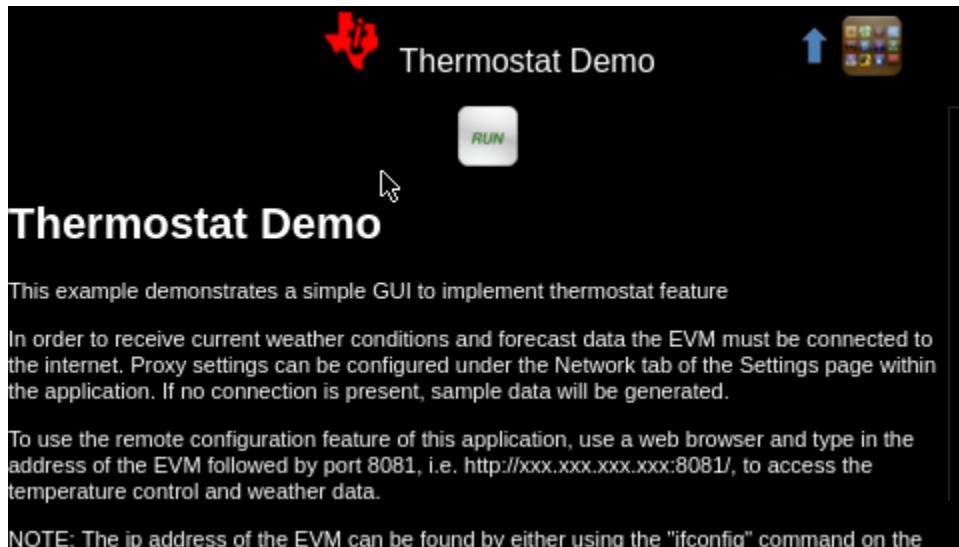

图 8. Smart Thermostat HMI Description and Run Screen
3. 图 8 appears on the screen. Click the *Run* button to launch the Smart Thermostat HMI demonstration GUI.